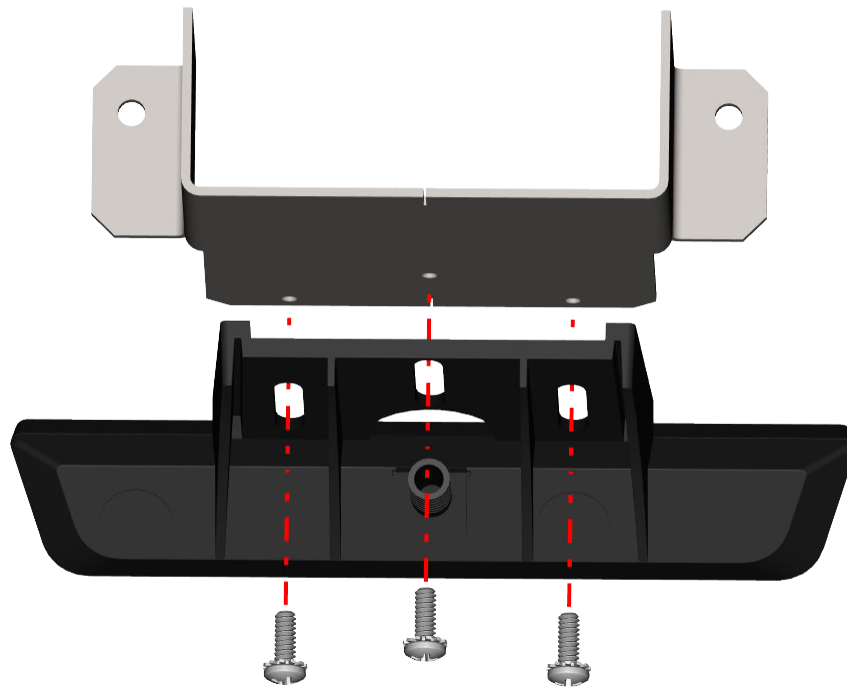

Fig. 8: Mount New control pad (rear view).
4. Discard Item No. 1, 2 and 3 from page 1. Mount the new control pad to the existing mounting plate, aligning its slots with the mounting plate holes. Insert the 3 mounting screws (kept from removal step) to secure the new control pad to the mounting plate (Fig. 8)